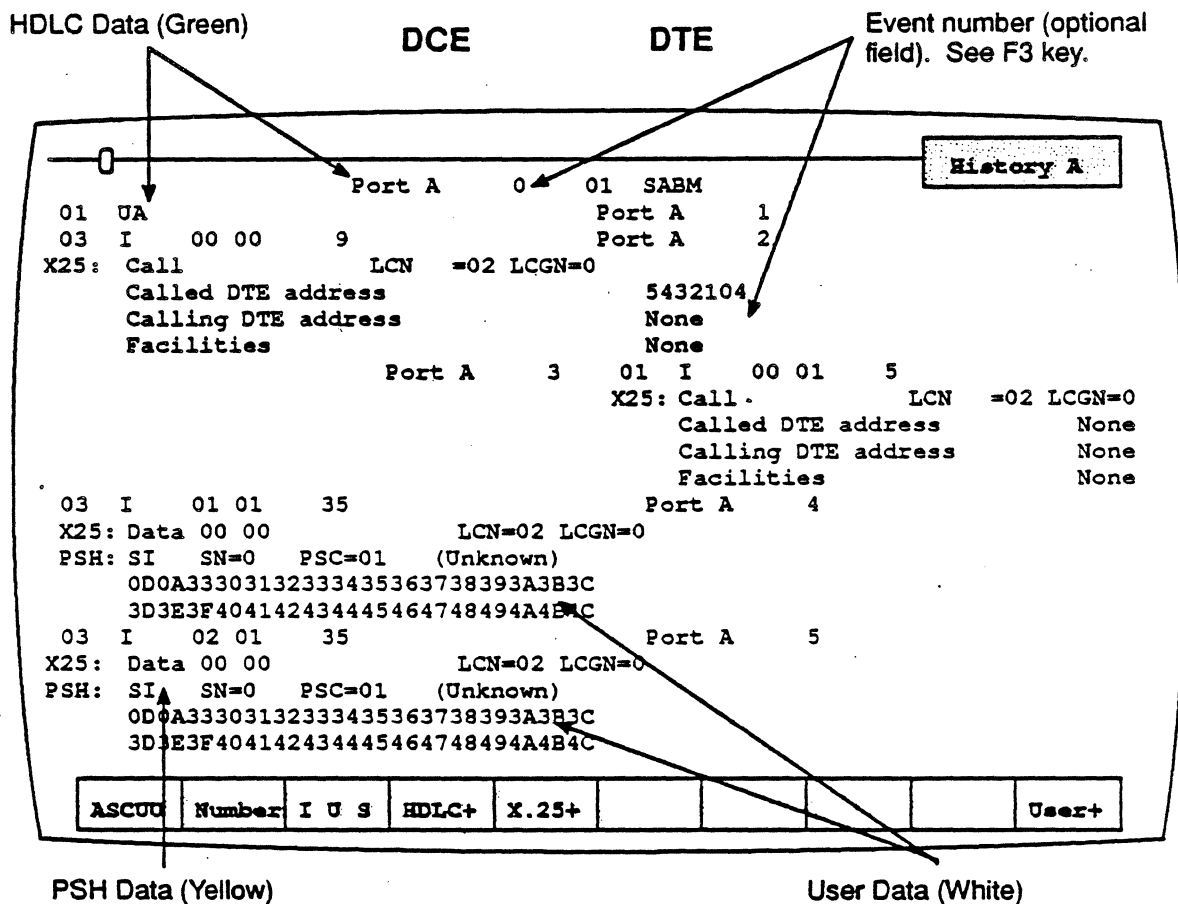

Figure 5.2: Analysis History Page with Sample PSH Traffic
The display format and function keys are the same for both pages, as shown in Figure 5.2. The page components are described on the following pages.
**F2** determines the acquisition information display format, which is displayed in green or white in the center of the screen, between the DCE and DTE sides (see Figure 5.2).